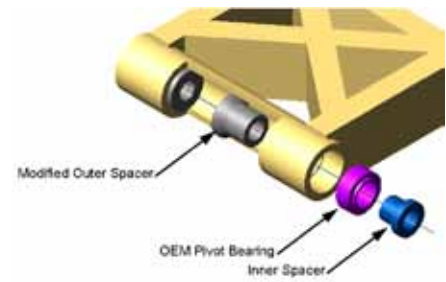

Figure 4
- a. Install OEM pivot bearings to Swing Arm, from outside, inwards. Figure 4
- b. Install inner spacer to Swing Arm, from outside, inwards (opposite of OEM installation). Figure 4
- c. Install modified outer spacer to Swing Arm, from inside, outwards (opposite of OEM installation). Figure 4